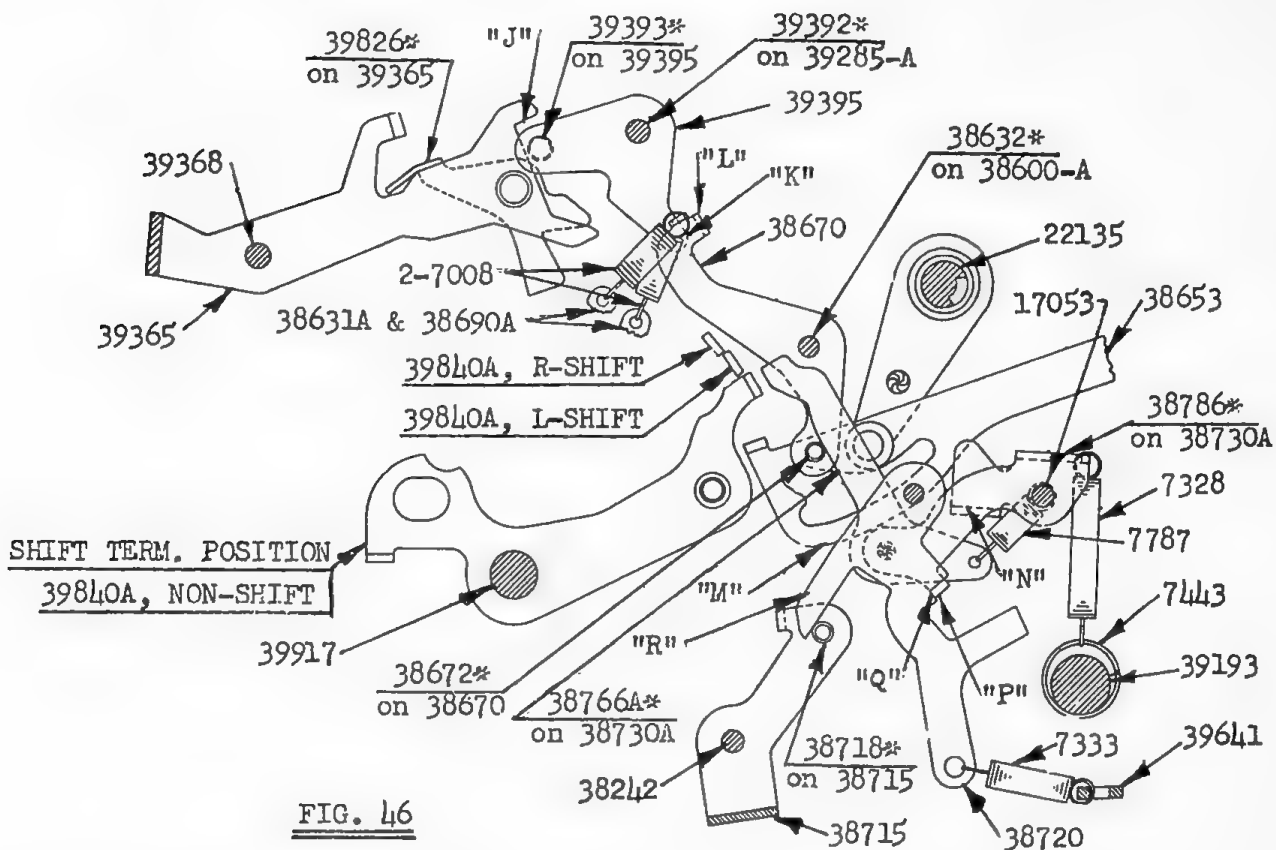

FIG. 46
5. (Fig. 46). Para. B-7 on Pages 1276 and 1277 will show that it will be necessary to restart multiplication after every shift in Equals operations. This restart mechanism is also enabled by the Equals Key Bail which has a surface "J" contacting Stud-39393* on the Multiply Delay Lever-39395 and rocking it counter-clockwise. Surface "K" on 39395 rocks the Restart Lever 38670 clockwise through ear "L" on 38670; Stud-38672* on 38670 allows the Restart Inter-ponent 38766A* on 38730A to rock
6. (Fig. 46). The first Setting Cycle on Equals Key operations is initiated by the Master Clutch Cycle as follows: When Power Link-38653 moves rearward on the Master Clutch Cycle, (Section I-Para. D, Page 1211), its surface "M" contacts ear "N" on the Restart Latch-38786* on 38730A, thereby rocking 38786* counter-clockwise. This moves ear "P" on 38786* out